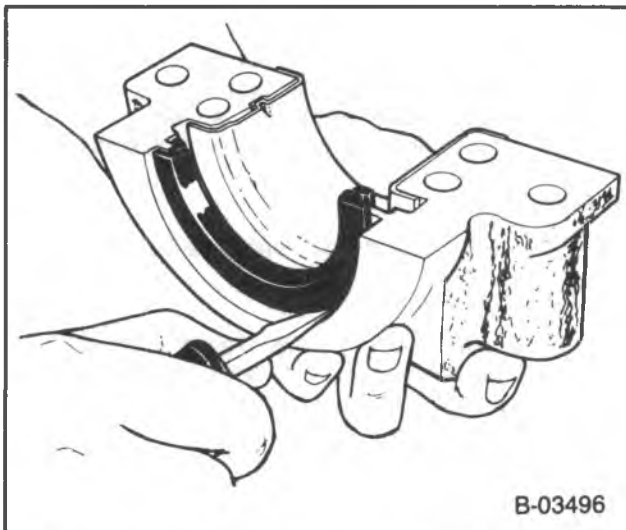

Figure 21 — Removing The Lower Seal Half
Remove or Disconnect (Figures 21 and 22)
3. Lower seal half (figure 21).